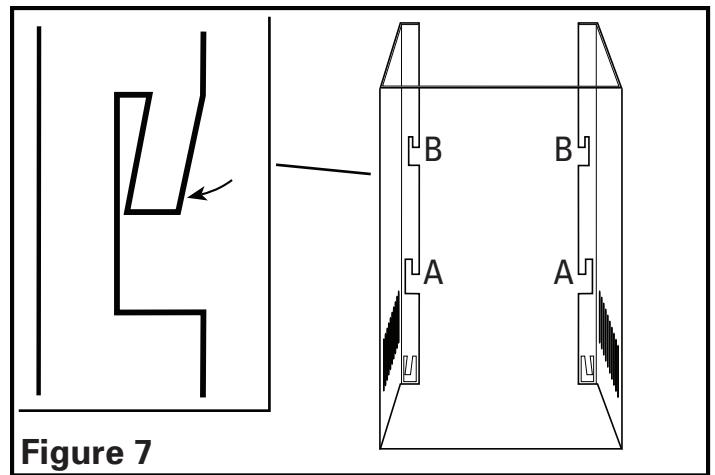

Figure 7
3. Press in appropriate tabs on lower chimney section (section with vent holes). If using the upper chimney, press in tabs in middle of the chimney (Position A), otherwise press in tabs at top of the chimney (Position B). Press in tabs at the bottom of the chimney so there is approximately 1/4" of clearance (**Figure 7**).